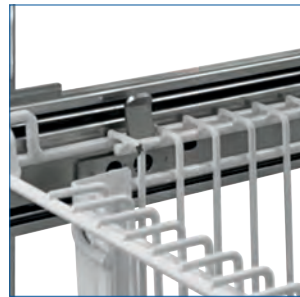

Fig. 9
4. Set the wire shelf or wire baskets on the slides using the hooks on the slides (Fig. 9)